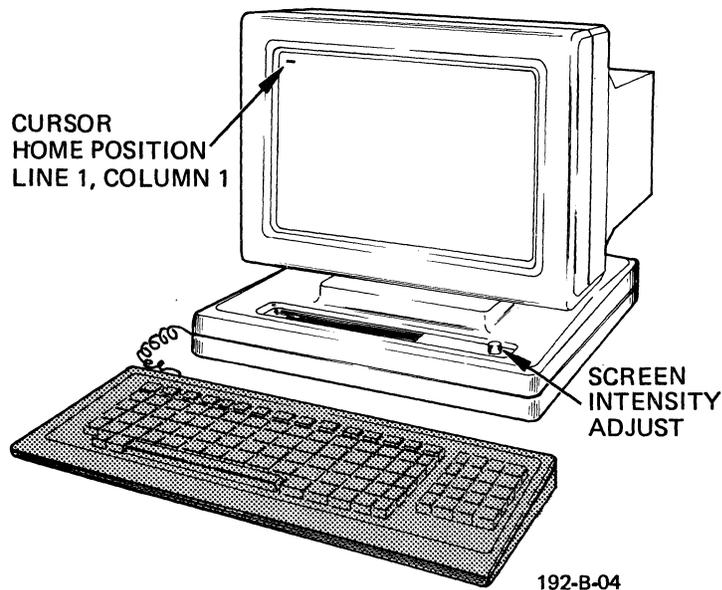

Figure 3-1. The Screen Display After Powering On the Terminal
- In about ten seconds the cursor should appear at the Home position. Note: It may be necessary to adjust the screen intensity by rotating the knob on the right corner of the display module to make the display visible. Refer to Figure 3-1;